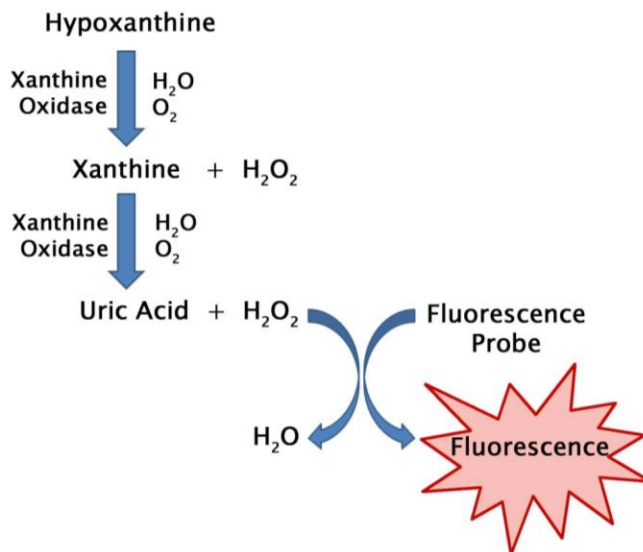

Figure 1. Xanthine/Hypoxanthine Assay Principle.
Cell Biolabs' Xanthine/Hypoxanthine Assay Kit measures total xanthine/hypoxanthine within biological samples. Hypoxanthine is converted into xanthine by xanthine oxidase (XO) and then xanthine is converted into uric acid and hydrogen peroxide by XO. The resulting hydrogen peroxide is then detected with a highly specific fluorometric probe. Horseradish peroxidase catalyzes the reaction between the probe and hydrogen peroxide, which bind in a 1:1 ratio. Samples are compared to a known concentration of xanthine standard within the 96-well microtiter plate format. Samples and standards are incubated for 15 minutes and then read with a standard 96-well fluorometric plate reader (Figure 1).